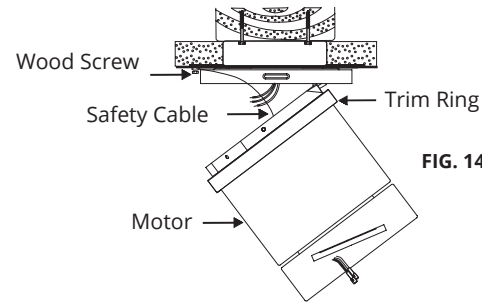

FIG. 14
Receiver to house supply wires electrical connections: **(FIG. 14 & 15)**
1. Lift motor assembly and hang it on the hook of mounting bracket using one of the screw holes **(FIG. 14)**.
2. Secure the safety cable to the building structure using wood screw **(FIG. 14)**.
3. Connect the fan assembly ground wire, mounting bracket ground wire and receiver ground wire to the ground wire in outlet box **(FIG. 14)**.